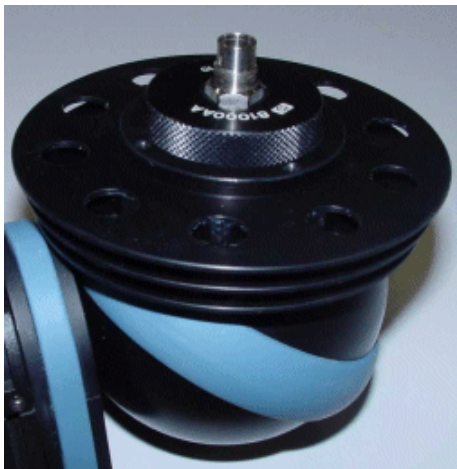

Figure 5 Attaching the Bottom Part of the Heat Sink
- 2 The heatsink consists of two conical metal parts, the bottom part (smallest diameter at the bottom), and the top part (largest diameter at top). Slide the bottom part of the heat sink over the throat of the integrating sphere with the smallest diameter facing to the sphere. Then screw on the desired adapter (81000xx series) to the sphere as shown in Figure 5 .